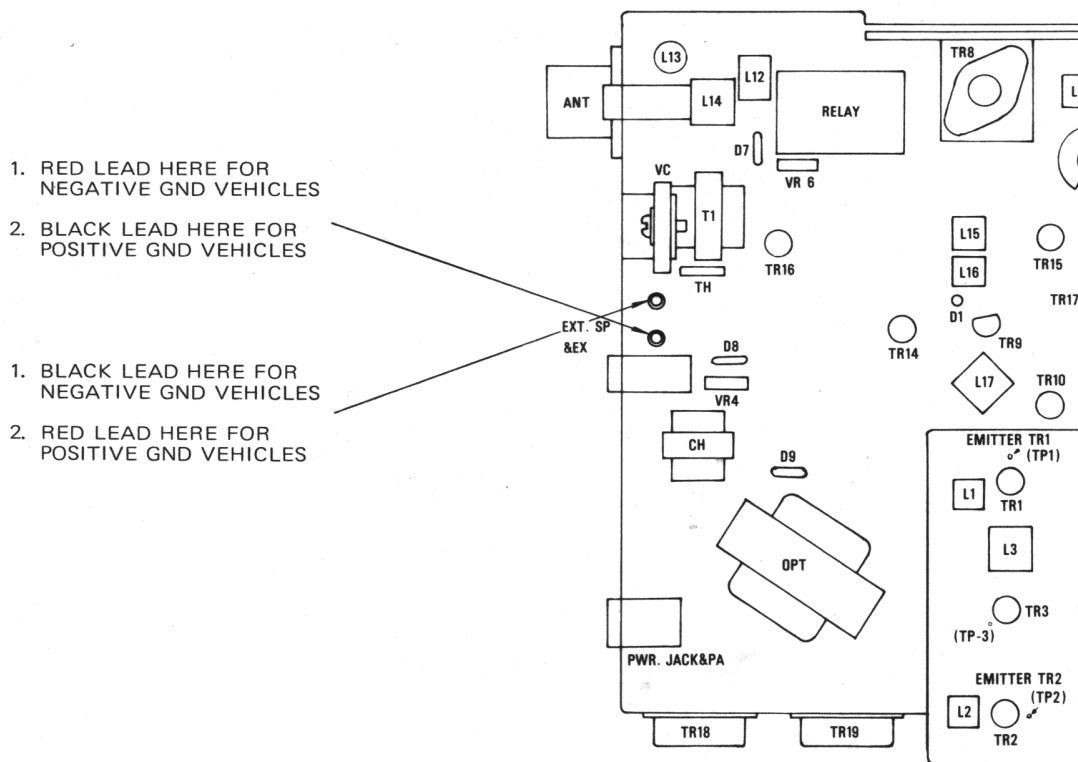

FIGURE 1
- Refer to Figure 1 which shows the location of the two leads (red and black) which must be interchanged for positive ground operation. Each lead is attached to its terminal by a push-on type lug. To remove, simply pull steadily on the lug. Interchange the two leads as indicated in the diagram and push each lug down over its assigned terminal.